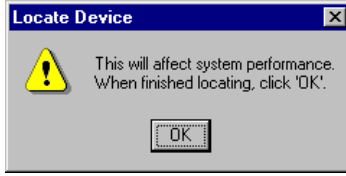

Figure 5-18. Locate Drive Message. Click OK When Done.
2. Click OK (see Figure 5-18) to end the locate operation and return to normal status.